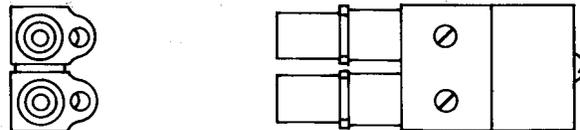

Fig. 22—491A Jack
2.17 491A: This coaxial-type jack (Fig. 22) has coaxially arranged inner and outer contacts. One end of the jack is designed to be used with the 358A and similar-type plugs. The other end of the jack is designed for a solderless shield connection to the connecting cable by means of a sleeve which is furnished as a loose part with the jack. The 491A is a twin jack which is designed for mounting in jack mountings such as the 185 and 230A. The mounting lugs on the two individual jacks may be positioned for mounting in order to extend back-to-back, in the same direction, or side-by-side. The outer contacts are connected together. A removable coverplate is furnished for use in covering an unused cable entrance hole. The jack construction permits strapping of inner contacts. The 491A jack is used in amplifier switching in the repeater equipment of the L3 Carrier Telephone System. The ac test voltage is 2000 volts.